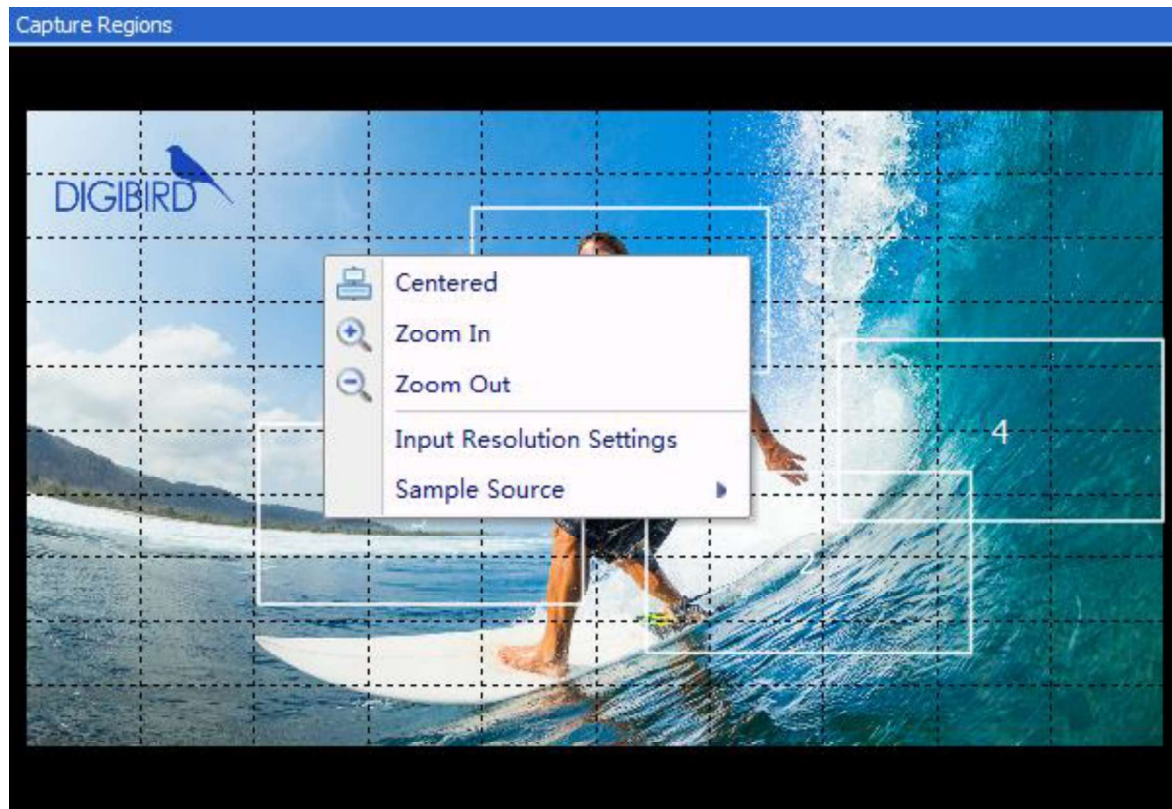

Figure 3.6.1B
- Right click the blank area of the Capture Regions window, and the context menu will appear (Figure 3.6.1B )